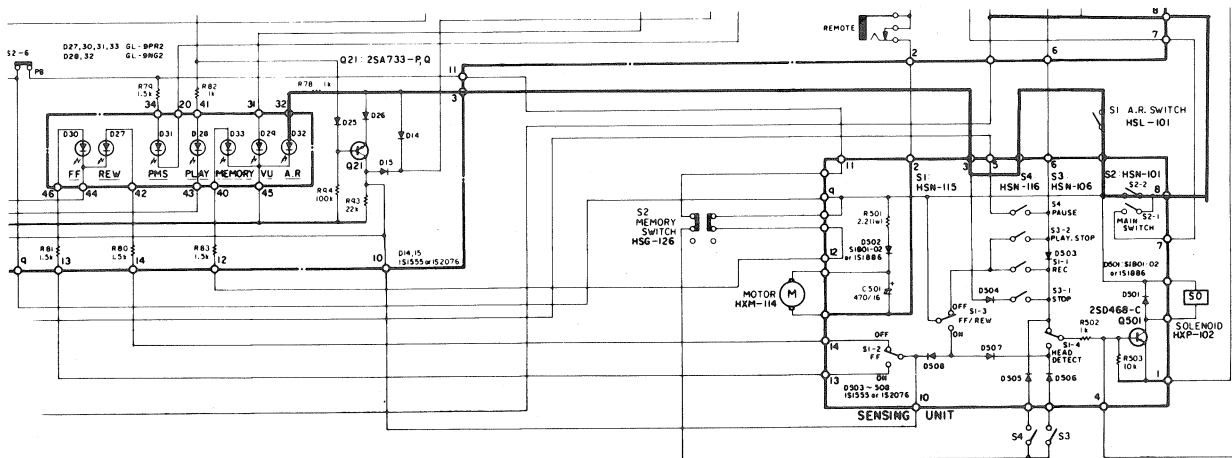

Fig. 13
- 5-5. Gear 1 goes through half a rotation, the head base rises and the deck is set to the play mode. The pulley with gear is released from the gear on the leftside reel base due to lever 1's action. Refer to Fig. 13.